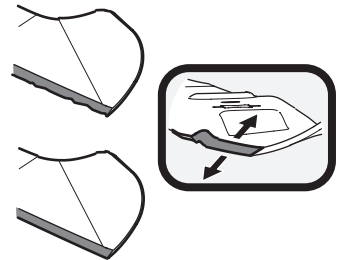

Figure 36
1. To properly sharpen the cutting blades, remove equal amounts of metal from both ends of the blades along the cutting edges, parallel to the trailing edge, at a 25° to 30° angle. Always grind each cutting blade edge equally to maintain proper blade balance. See Figure 36.